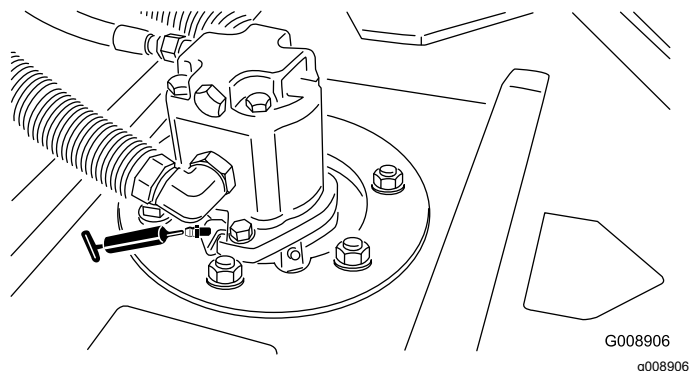

Figure 72
- Cutting unit spindle-shaft bearings (2 per cutting unit)—Figure 72